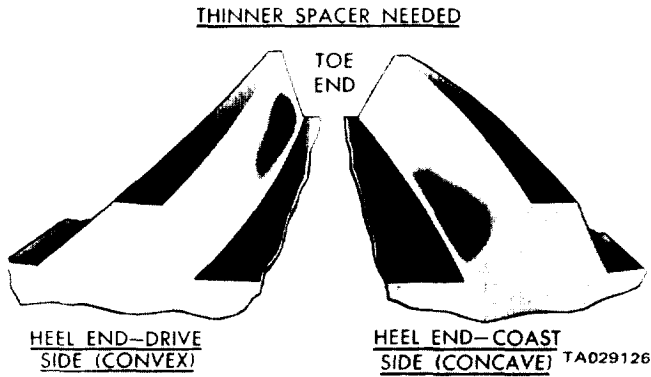
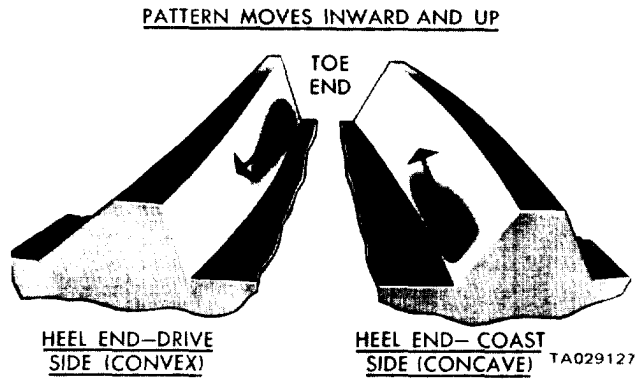

Figure 19-24. Incorrect Tooth Contact Pattern (Decrease Shim Pack Thickness).
Figure 19-25. Effect on Tooth Contact Pattern as Shim Pack Thickness is Decreased.
d. If after observing the contact pattern you find it resembles that in figure 19-24, the drive pinion is too close to the centerline of the ring gear. The pattern will appear low on the toe on the drive side and low heel contact on the coast side. To correct this type of tooth contact pattern, decrease the thickness of the shim pack located behind the rear pinion bearing cup (figure 19-25). This will cause the low toe contact on the drive side to raise and move toward the heel; low heel contact on the coast side will raise and move toward the toe.